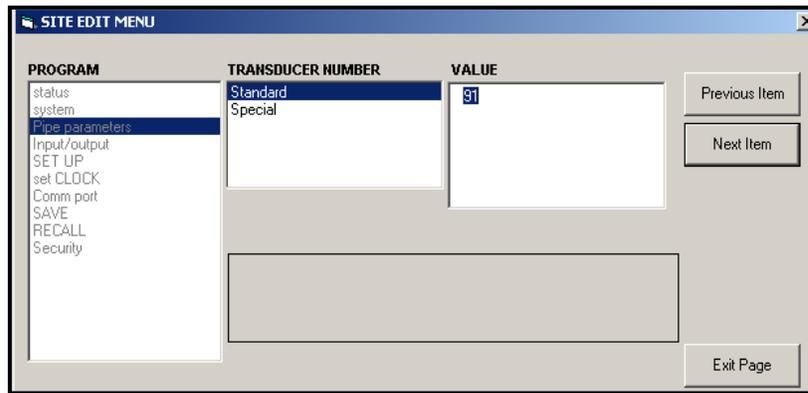

Figure 37: Pipe Parameters Option In Site Edit Menu
- a. Highlight and double-click on the desired option in the left pane. Figure 37 below shows the first entry (Transducer Number) in the Pipe parameters option. The title above the center pane lists the current entry, while the center pane displays the available selections for that entry.